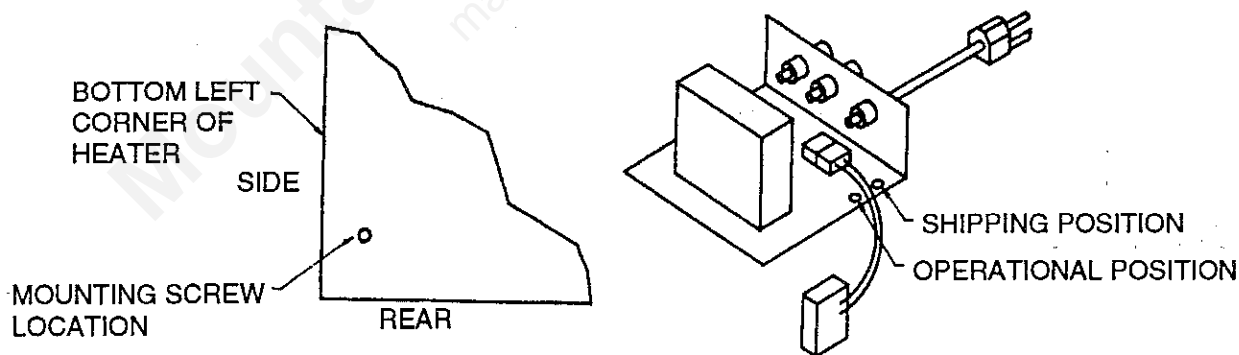

FIG. 1
- a) Refer to the below diagram. (FIG. 1)